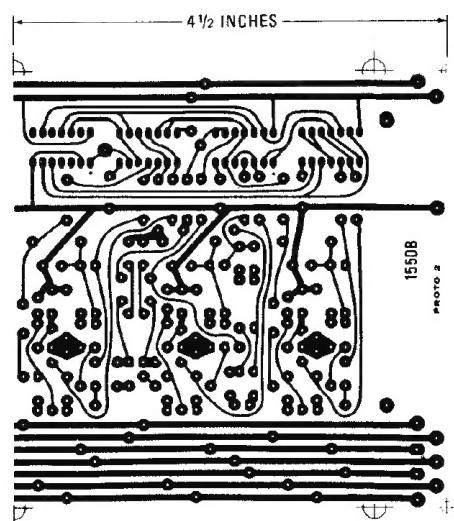

FIG. 11
SEE FIG. 11
**HALF-SIZE SECTIONAL FOIL PATTERNS.** Figs. 7 and 8 are right and left ends, respectively, of the "A" board. Fig. 9 pattern is used when making the four tone blocks in the center of boards "A" and "B". Fig. 10 is the F# block and Fig. 11 the C# block on the "B" board.